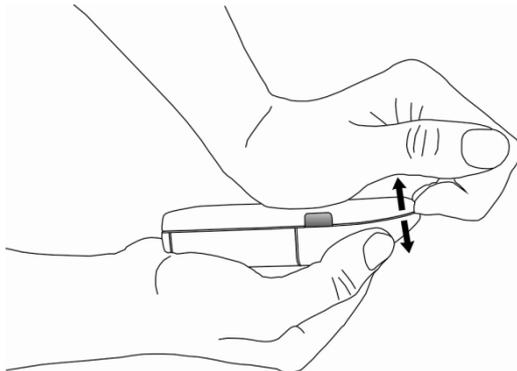

Fig. 9
- Open **the Mobil-O-Graph®** as show in Fig. 9
- Open the housing as shown in Fig. 9.